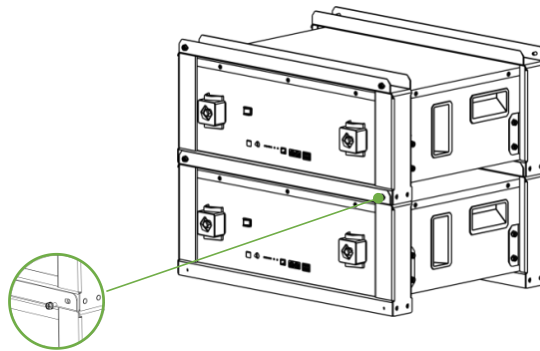

Figure 3-4
2. Install another module as the same method, don't tighten the screw first, put it on top of the first battery, as shown in figure3-4.